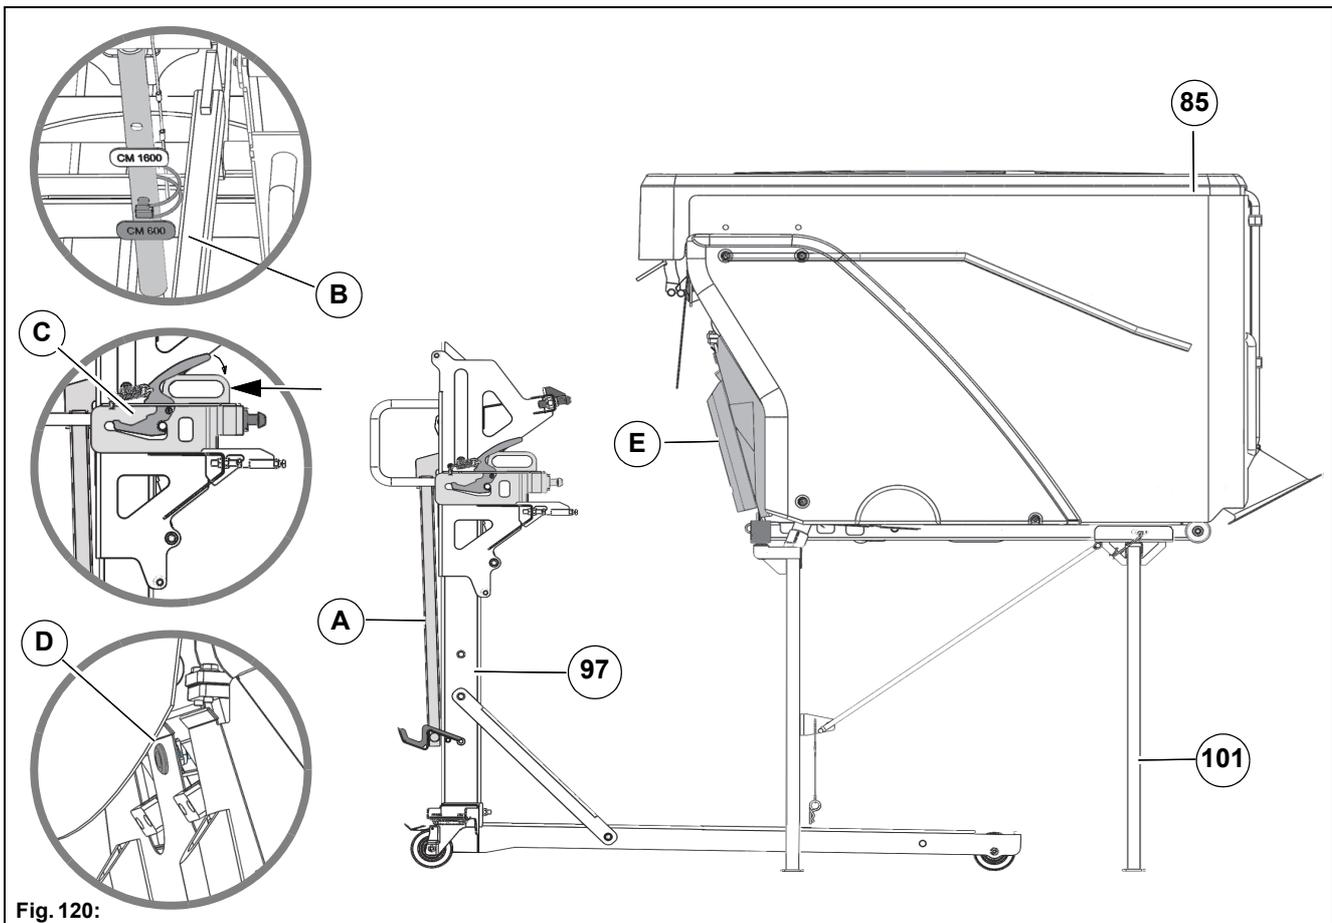

Fig. 120:
2. Unlock the lever **Fig. 120-A** of the trolley **Fig. 120-97** and swing it into the upper position.
3. Hold the lever **Fig. 120-A** in the upper position with one hand. With your other hand plug the mounting bolt **Fig. 120-B** on the Citymaster 650.
<p>Danger Risk of injury! The lever Fig. 120-A can swing over.</p>
4. Unlock the sledge **Fig. 120-C** with the lever and push it into the rear position.
5. Open the lock **Fig. 120-D** of the lid **Fig. 120-E** and swing the lid downwards.